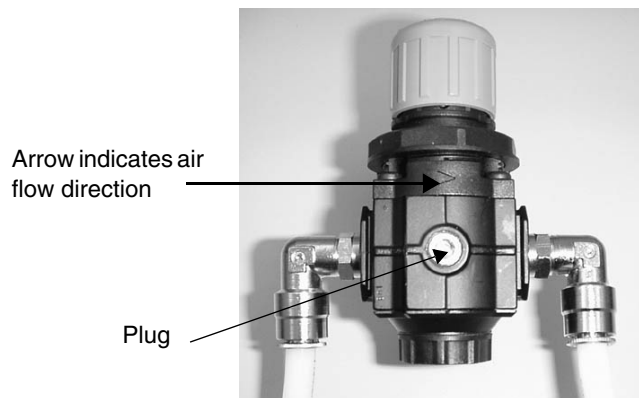
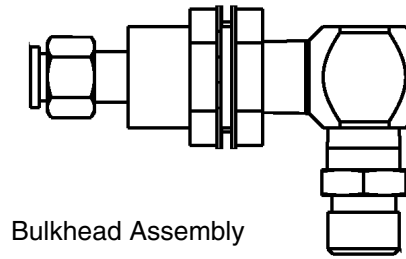
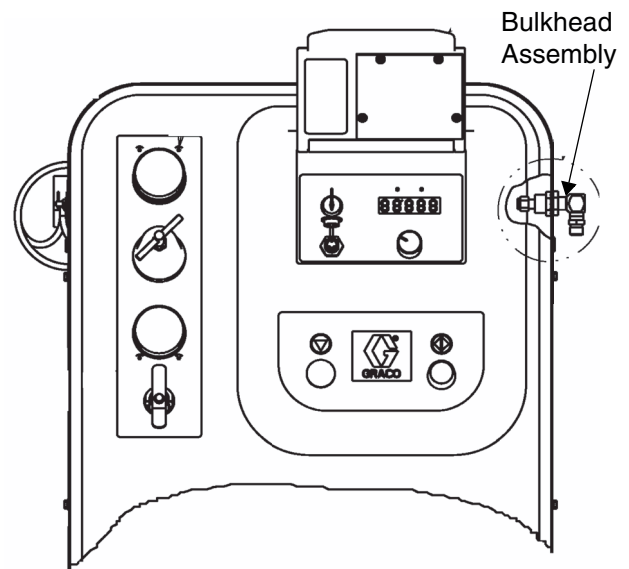

FIG. 2
FIG. 3
FIG. 4
Note the embossed arrow on the back of the regulator assembly determine the direction of air flow (FIG. 2).
5. Assemble the fittings into the regulator (2) and install the pressure gauge (4) so the regulator's air inlet is on the bottom when installed.
6. Plug the extra regulator port (FIG. 2).
7. Install the regulator assembly using the nut (1) provided.
8. For pump-based systems, install the bulkhead assembly as shown (FIG. 3 and FIG. 4).